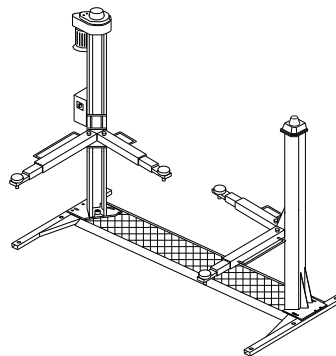

Fig.1
3. BESCHRIJVING HEFBRUG (zie Fig1)